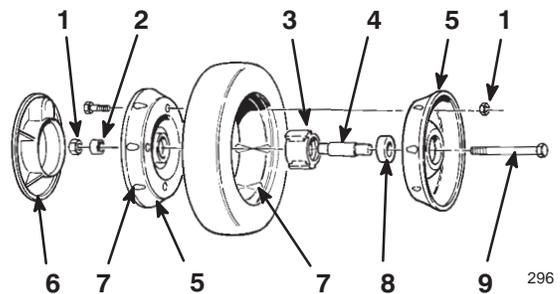

Figure 34
3. Remove the bolt, the wheel spacer, and the locknut mounting the wheel to the pivot arm (Fig. 34).
4. Separate the wheel halves from the tire by removing four bolts and four locknuts (Fig. 34).
Note: If you remove the bearings from the bearing/hub assembly, remove them by pressing on the bearing spacer (Fig. 34).
1. Position the tire onto one wheel half, aligning the lugs on each (Fig. 34).
2. Place the bearing/hub assembly into the center hole of the wheel half. Ensure that the legs of the hub are positioned over the flange of the hole (Fig. 34).
3. Place the other wheel half onto the bearing/hub assembly, aligning the wheel and the tire lugs and the mounting holes (Fig. 34).
4. Using two 1/4–20 x 1.50 in. fully threaded bolts and non-locking nuts, loosely secure the wheel halves together. Mount the bolts in the opposing holes (Fig. 34).
5. Check the alignment of all parts and tighten the bolts, alternating from side to side for a uniform fit, until the wheel halves are drawn together (Fig. 34).
6. Install the two bolts and two locknuts previously removed in the remaining holes in the wheel halves and tighten. Remove the two long bolts and replace them with two bolts and two locknuts (Fig. 34).
7. Install the wheel to the pivot arm with the bolts, a spacer, and a locknut. Ensure that the spacer is positioned between the wheel hub and the pivot arm (Fig. 34).